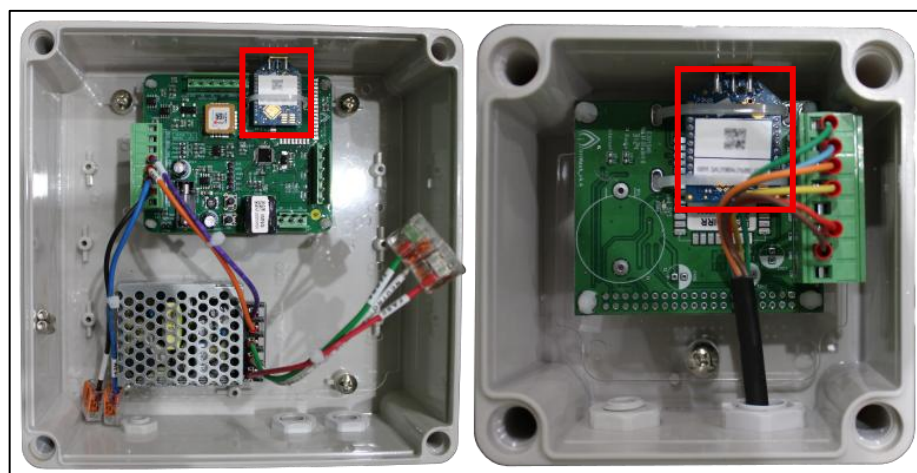

Figure 28 - XBee module label of the GPS and Irrimesh.
- B. On the first page (1/2), go to the “GPS” field and enter the GPS radio serial number (ID) using the characters available on the screen.
The GPS radio serial number (ID) is available on the label attached to the XBee module inside the device, as shown in Figure 28.